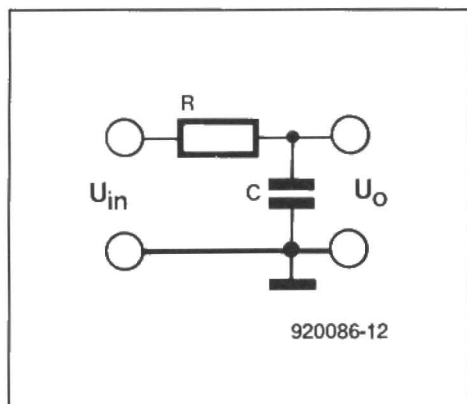

Fig. 2. Passive resistor-capacitor (R-C) integrator circuit.
Perhaps the simplest form of integrator and differentiator circuits are made from simple resistor (R) and capacitor (C) elements, as shown in Fig. 2. You may recognize this circuit as a passive low-pass filter. The R - C low-pass filter (integrator) has a -6 dB/octave falling characteristic frequency response.